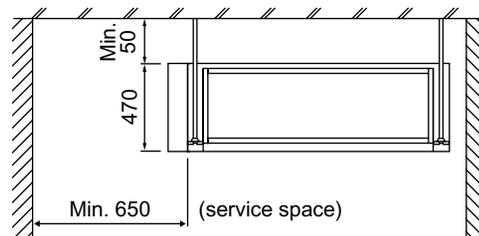

Fig. 1 (length: mm)
- (1) Select an installation site where the following conditions are fulfilled and that meets with your customer's approval.
- Where sufficient clearance for maintenance and service can be ensured. **(Refer to Fig. 1)**
- (2) **Use suspension bolts for installation. Check whether the ceiling is strong enough to support the weight of the unit or not. If there is a risk, reinforce the ceiling before installing the unit.**